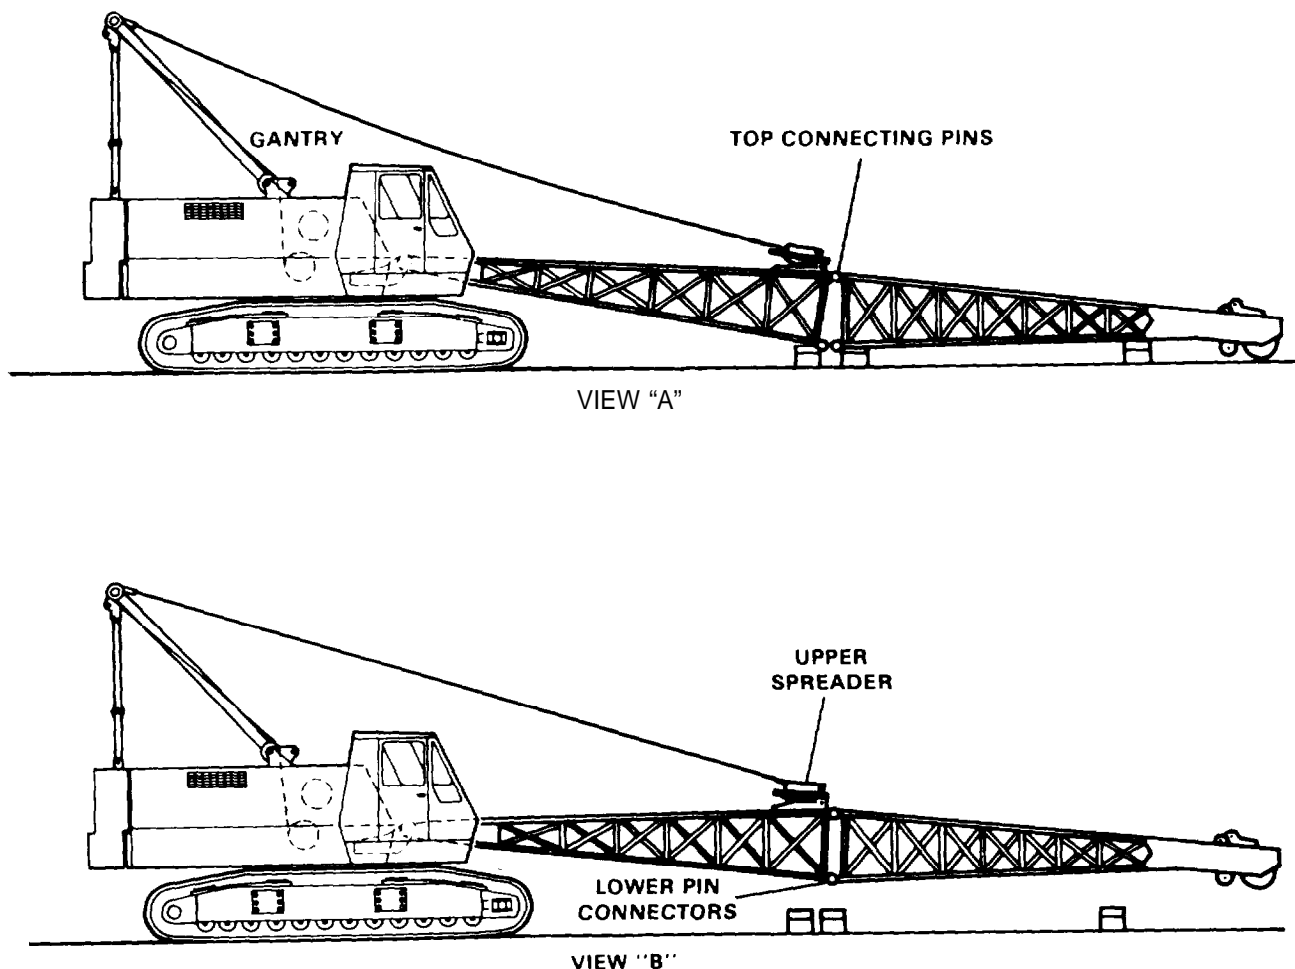

Figure 4-1. Attaching Tip Section
5. Carefully raise the boom base section, by taking up on the boom hoist line, and move the machine up to the cribbed tip section. Lower the boom base and position the boom base to the end of the tip section so that the top pin connectors are aligned. Install the connector pins and lock them in position with the cotter pins (see Figure 4-1. View A).
6. Carefully lift the boom base section by taking up on the boom hoist line until the lower pin connectors are aligned. Install the lower connector pins and lock them in position with the cotter pins (see Figure 4-1, View B).